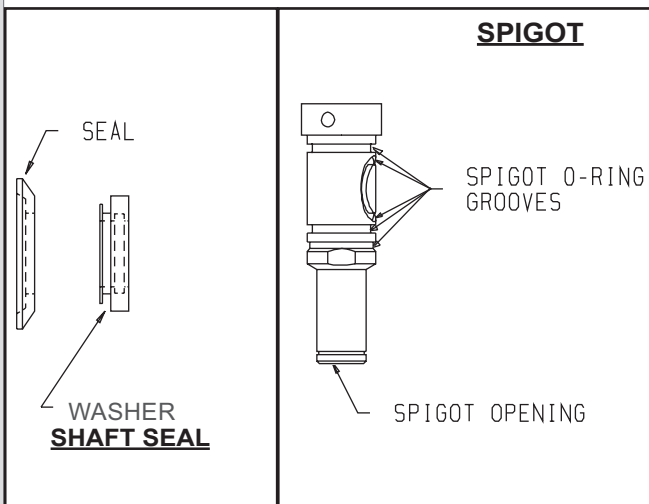

Figure 8-5
- c. the spigot o-ring grooves, nozzles, the shaft cup seals, plastic washers and o-rings as shown in figure 8-5